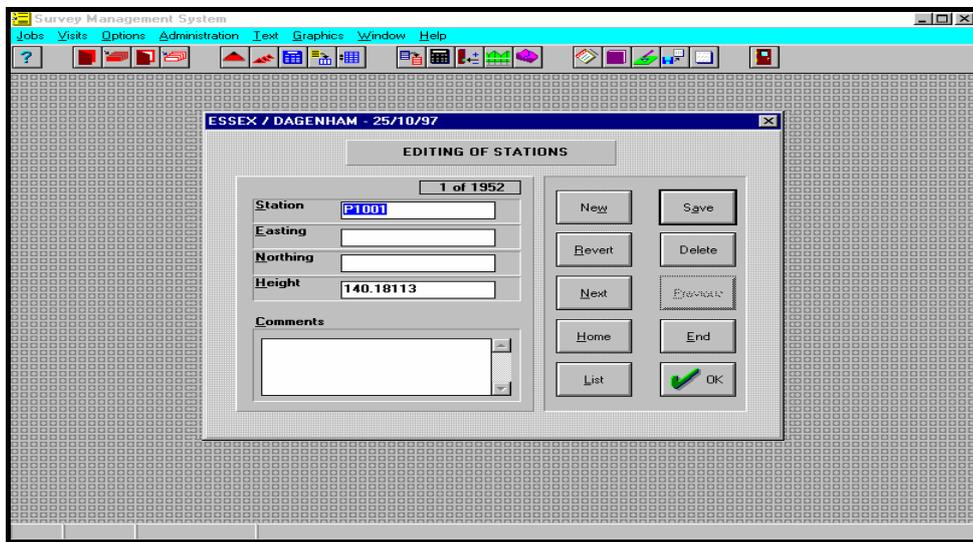

Fig 4.11
- Select Edit Stations to delete change points, rename points to station names and add plan information, eastings and northings, Fig 4.11. List command button installs a dialog list box with print and file commands.